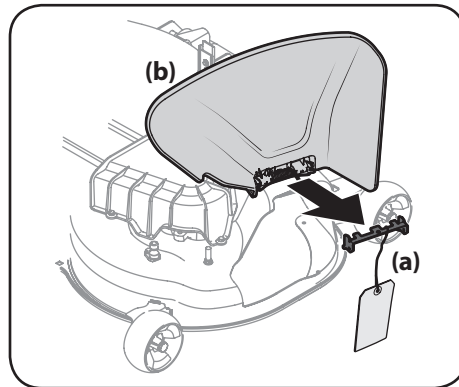

Figure 2-3
4. Check the cutting deck for a shipping brace (a) that may be holding the chute deflector (b) upward for shipment. If the shipping brace (a) is present, it must be removed before operating the tractor. Holding the chute deflector (b) fully upward, remove the shipping brace (a). Lower the chute deflector (b) and discard the shipping brace (a). See Figure 2-3.